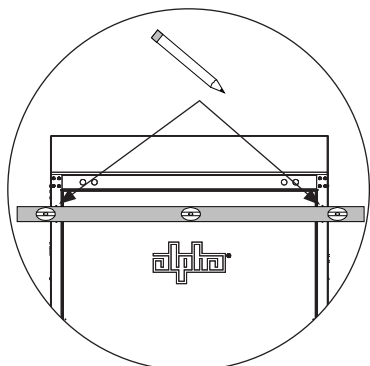

Figure 2, Marking Bracket Locations
1. Using a 4-ft level and a pencil, mark the enclosure where the top of the side brackets will be placed, see Figure 2.